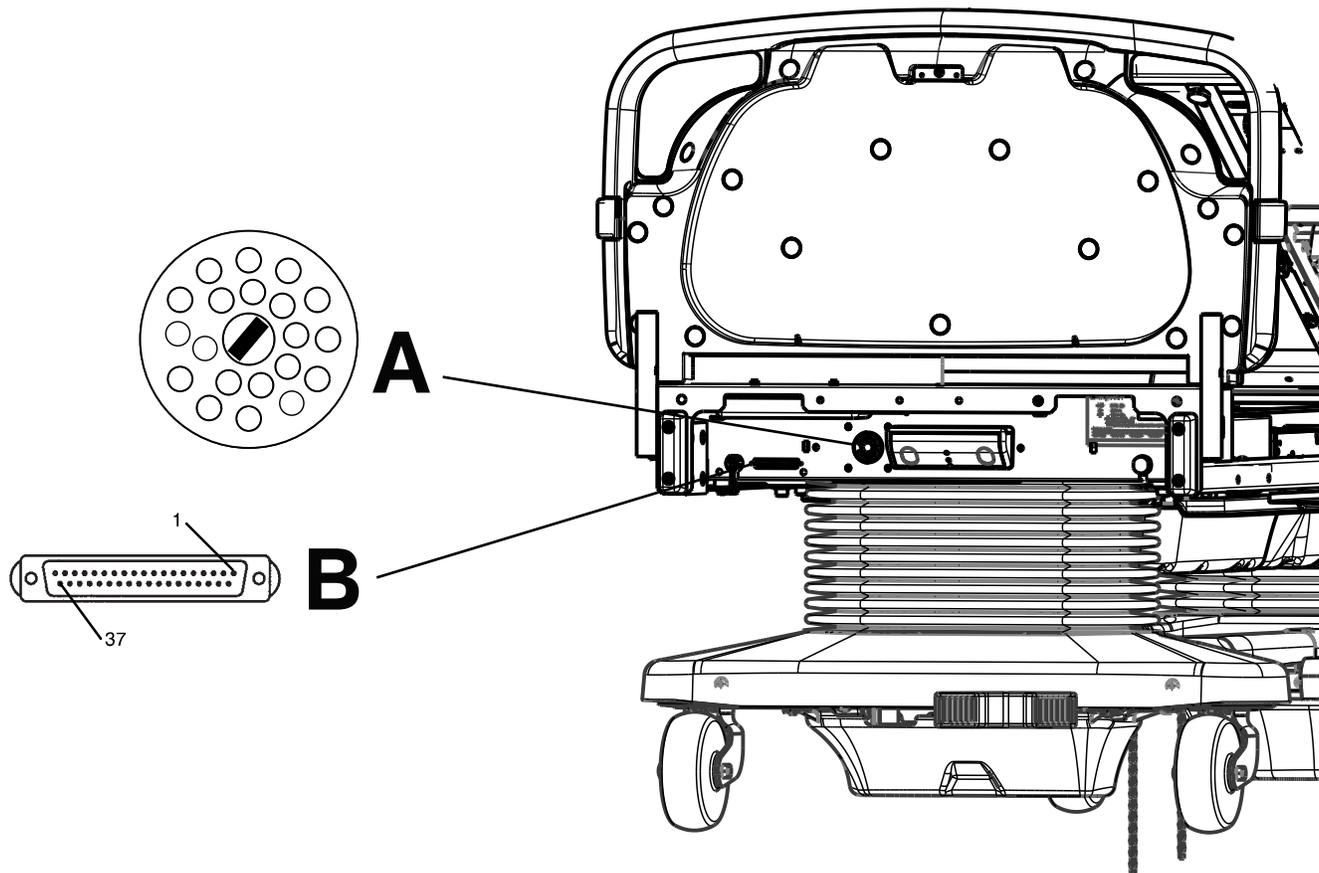

Figure 3 – Nurse call pendant port and 37-pin connector
1. Plug the interface cable into the 37-pin connector (B) in the litter frame at the head end of the product and into the applicable connection (patient station, head wall, or docker station) (Figure 3).
4. Push in the pendant port switch (A) and turn the switch to the on position (90° clockwise) (Figure 3).
5. Press the **Nurse call** button (E) (*Operator control panel, outside siderail* (page 23)) to verify the connection between the product's nurse call signal and the hospital's nurse call system.